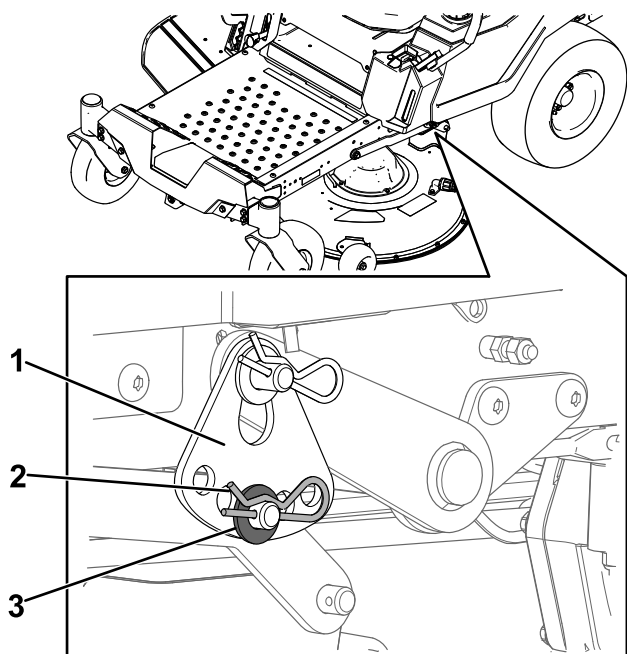

Figure 66
6. Remove the hairpin cotter and washer from the lower lift-arm pin (Figure 66).